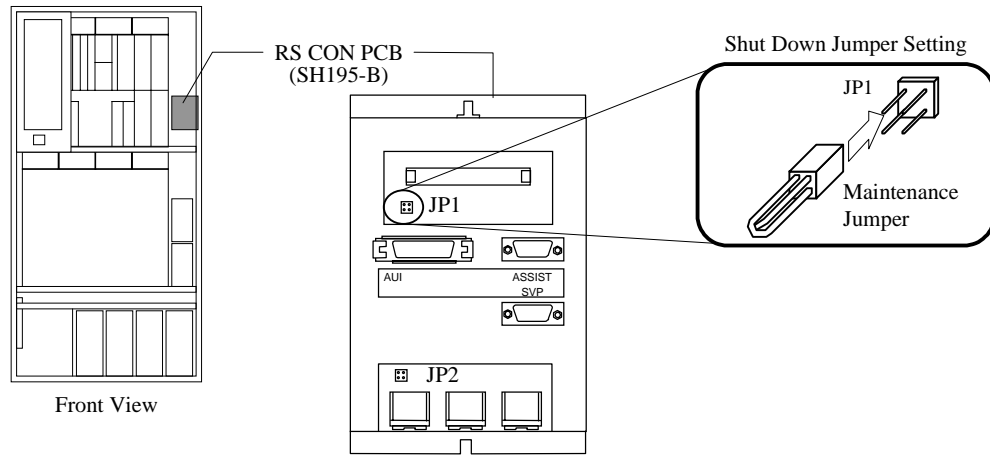

Fig. 4.9-2 Jumper settings of RS CON PCB
- a. Remove the maintenance jumper of the JP1 on the RS CON PCB. (See Fig. 4.9-2.)